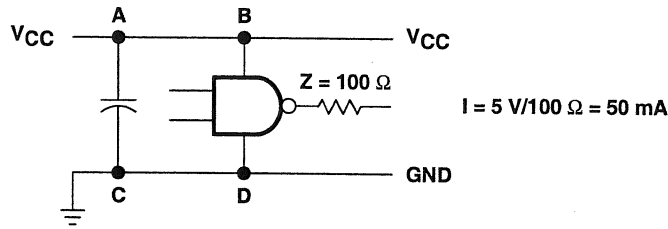
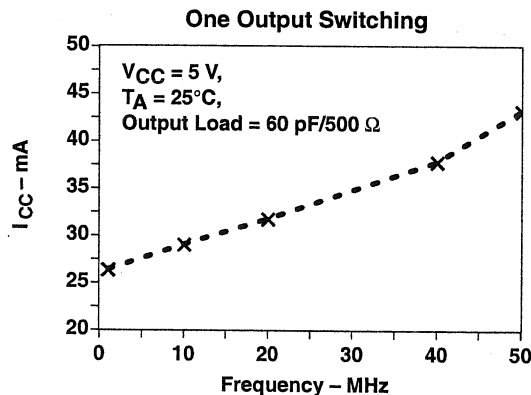

Figure 3. Capacitive Storage (Bypass Capacitor)
Figure 8. I_{CC} vs Frequency
Consider a device driving a line from low to high having an impedance ($Z \cong 100 \Omega$) and a supply voltage ($V_{CC} = 5 \text{ V}$) (see Figure 3). In order for the device to change state, an output current ($I = 50 \text{ mA}$) is needed instantaneously. Note that for eight outputs switching, $I = 50 \times 8 = 400 \text{ mA}$. This current is provided by the power line (or plane) in a period less than or equal to the rise time of the output (approximately 3 ns for ABT). The bypass capacitor must supply the charge in that same period to avoid V_{CC} drop; therefore, distance becomes an important issue. Line inductances can block the charge from flowing, leaving the power line (or plane) disturbed.
The inductance (L) is directly proportional to the distance between the lines as well as the length of the lines. Therefore, by reducing the loop ABCD in Figure 3, the inductance is minimized, allowing the capacitor to function more efficiently and, hence, keep the noise off the power line (or plane).
For example, with $\Delta V = 0.1$ V, $\Delta t = 3$ ns, $N = 8$, and I obtained from either Figure 3 (for rough estimate) or from the plot in Figure 8 (assuming 50-MHz frequency), using $I = 44$ mA, the equation is: